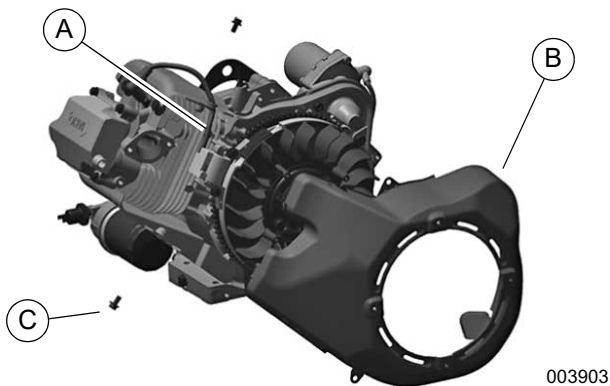
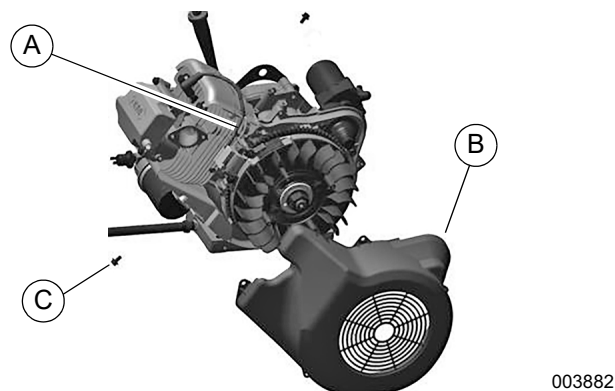

Figure 14-64. Install Blower Housing (Portable)
Figure 14-65. Install Blower Housing (HSB)
1. See Figure 14-64 (portable) or Figure 14-65 (HSB). Verify coil wire grommet is firmly located in top wrapper slot (A) before installing blower housing (B). Install blower housing on engine, securing it to wrappers and engine with two screws (C).